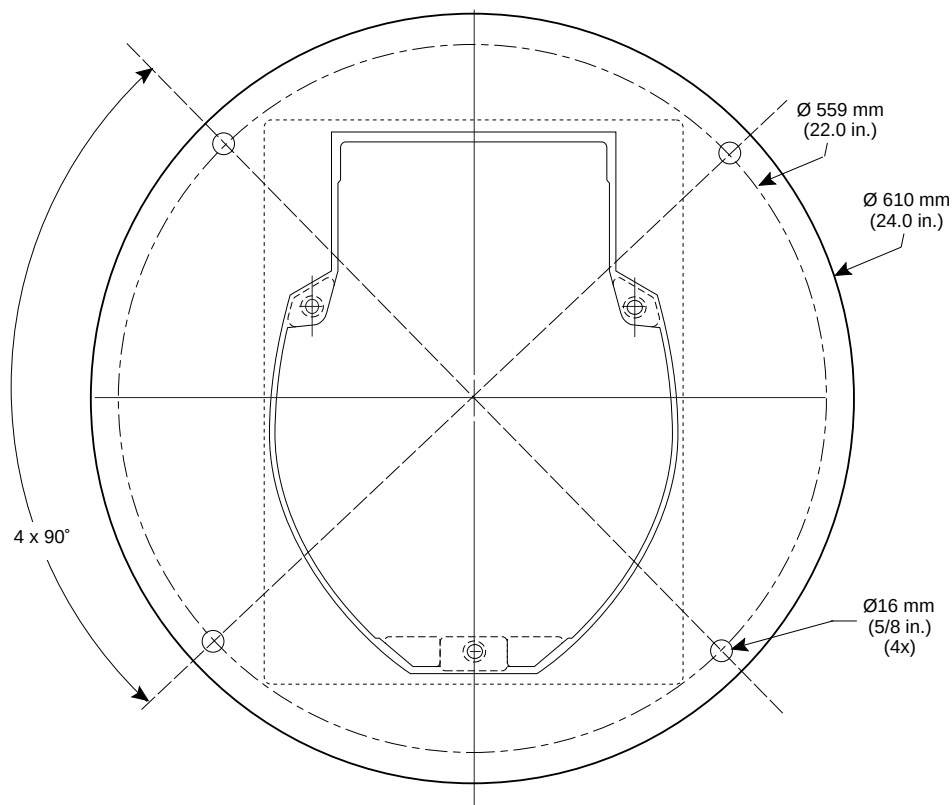

**Figure 3-1. Mounting Hole Pattern (Plate/Spool-to-Floor)**
Figure 3-1 shows the dimensions for drilling the holes to mount the plate or spool to the floor.
2. Drill four 16 mm (5/8-inch) diameter through holes, as shown in Figure 3-1, for plate-to-floor anchoring.
2. Prepare the bottom of the mounting spool by drilling four 16 mm (5/8-inch) diameter through holes, as shown in Figure 3-1, for spool-to-floor anchoring.